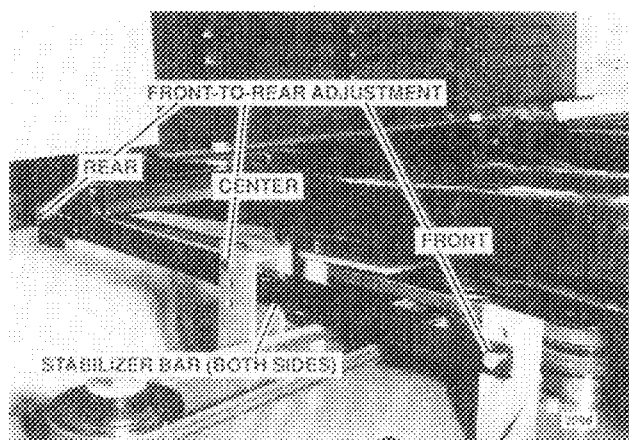

FIG. 11. Front-To-Back Level Adjustment
3. Mower level front-to-rear is adjusted by changing stabilizer bar positions (Fig. 11). Always adjust each side evenly. Adjust at front and middle of stabilizer bar by removing hairpin cotters and clevis pins and raising or lowering stabilizer bar positions.
To change cutting height setting, remove foot platform, raise mower and disconnect long spring on foot pedal lever arm (Fig. 5). Remove mower drive belt and lower mower all the way down. Remove center clevis pins (Fig. 11). Position front clevis pins in holes to match desired height setting. Reinstall middle clevis pins in holes to match desired height setting. Reinstall foot pedal spring. Reinstall mower drive belt and foot platform.